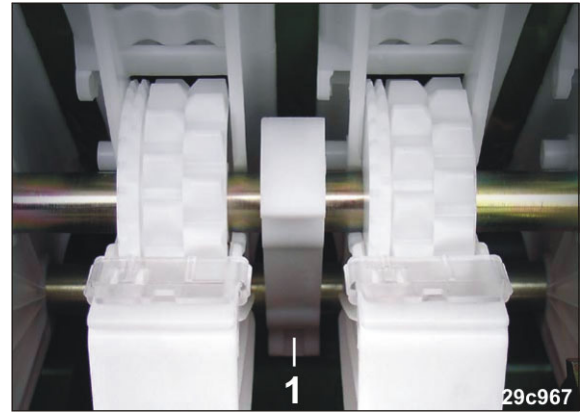

Fig. 250
3. Open the seeding shaft contact pressure bearings (Fig. 250/1).